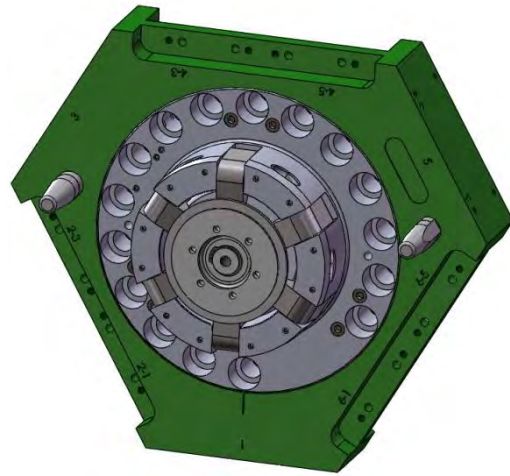

Figure 6.1-2. Robot Adaptor Uncoupled (Cams Retracted)
3. Supply control power to the solenoid valve and supply the signal from the controller/PLC to move the valve to the uncoupled (solenoid energized) position. The cams should retract to the uncoupled position (Figure 6.1-2) and the input from the uncoupled sensor should be received by the robot controller/PLC.